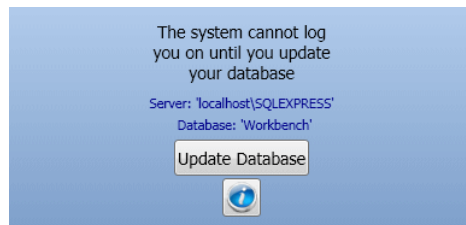

Figure 57 Update Database
- 7. If the database needs to be updated the screen shown in Figure 57 will be displayed. If this screen is not displayed move on to step 11.